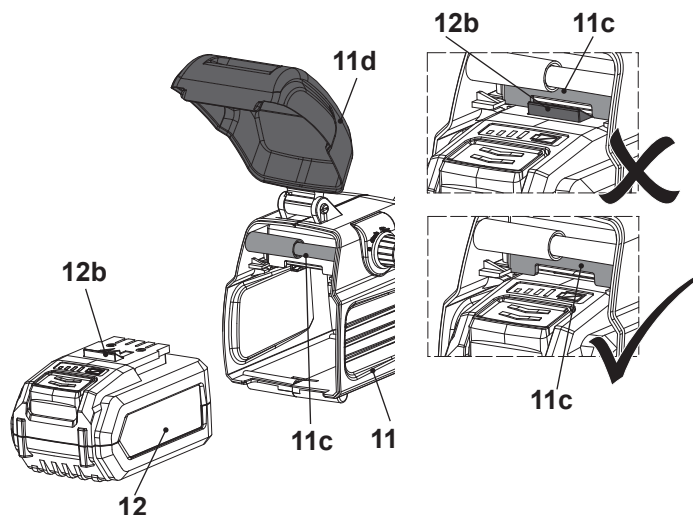

Fig. 8
1. Open the transparent cover (11d) of battery compartment (11) and hold it firmly in position (Fig. 8, step 1).
2. Align and slide the battery pack (12) into the battery compartment (11).
3. Push the battery pack (12) until the stop. Ensure that the locking latch (12b) passes the stopper (11c) and clicks in place (Fig. 8, step 2).